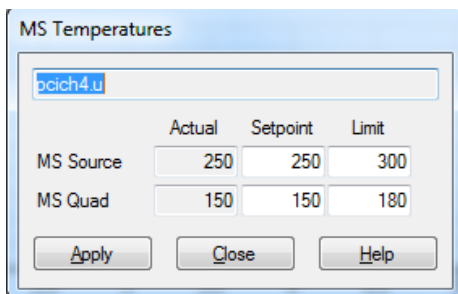

Figure 29 MS temperatures dialog
- 1 In **Instrument Control** view, select **MS Temperatures** from the **Instrument** menu. (See Figure 29.)